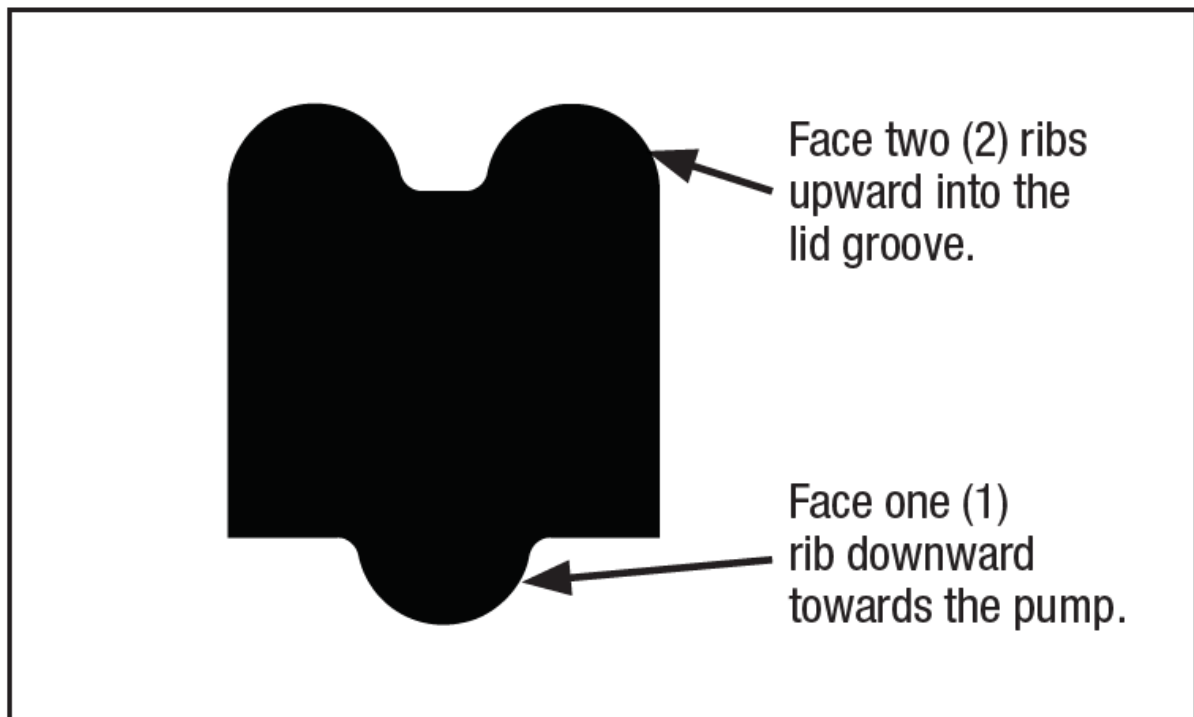

Figure 19. Cross Section of Lid Seal
3. Insert the seal into the lid groove with the two (2) ribs facing inwards into the lid groove and the one (1) rib facing outwards toward the pump. See Figure 19 for a cross-section visual.